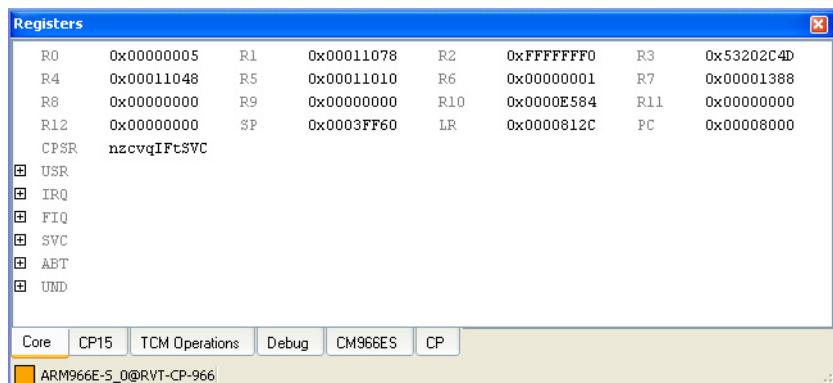

Figure 14-1 Registers view
1. Select **Registers** from the **View** menu to display the Registers view. Figure 14-1 shows an example:
1. Select **Registers** from the **View** menu to display the Registers view. Figure 14-1 on page 14-3 shows an example.